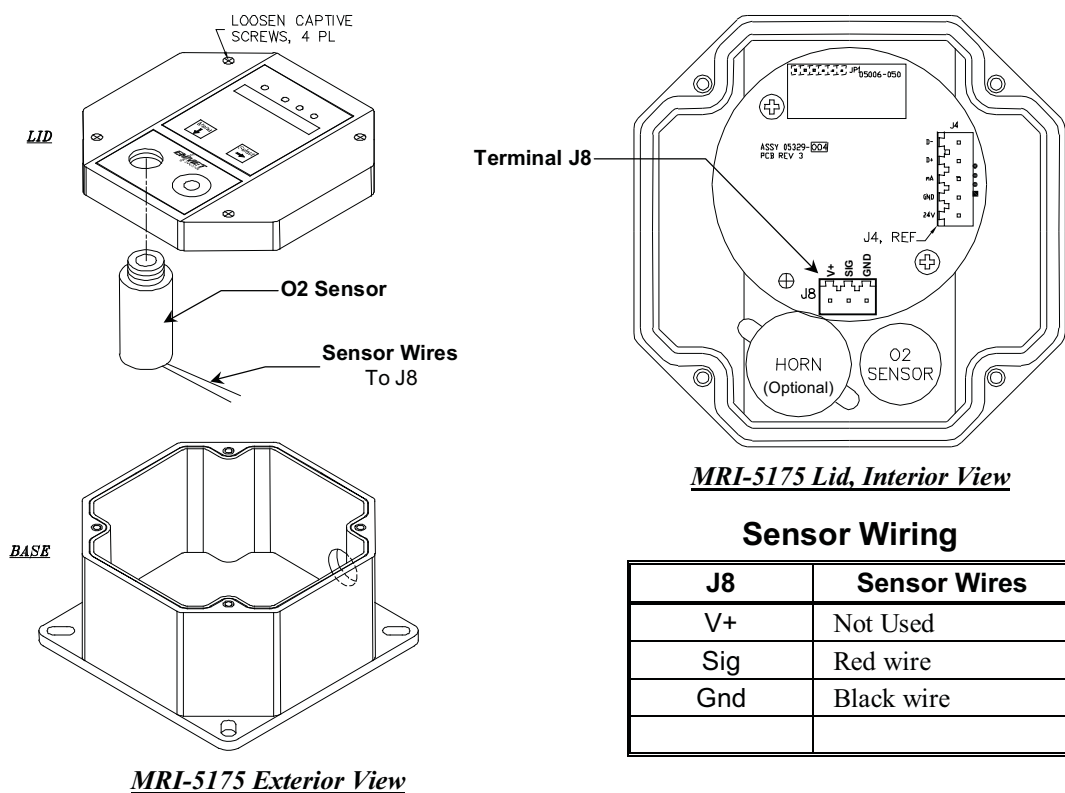

Figure 10: MRI-5175 Sensor Replacement
- Open the display panel and remove the four cover (lid) retention screws and remove the lid. See **Figure 10**.
- Remove the old O₂ sensor, by unscrewing it, and replace it with a new sensor. See **Figure 10**.